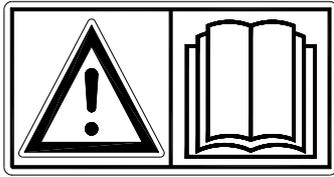

Fig. 1
**Read and understand** (Fig. 1) the manual before starting to use the Verti-Groom.